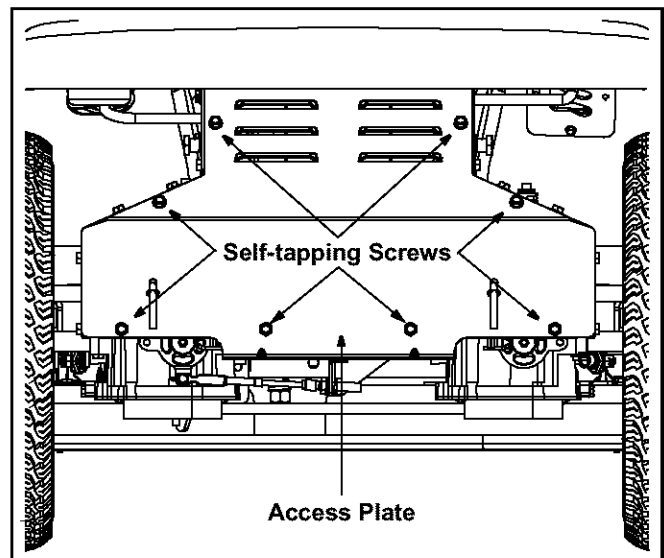

Figure 23
- Remove the eight self-tapping screws which fasten the tractor's rear access plate to the frame. See Figure 23. Save these screws as they will be used to refasten the plate in later steps.